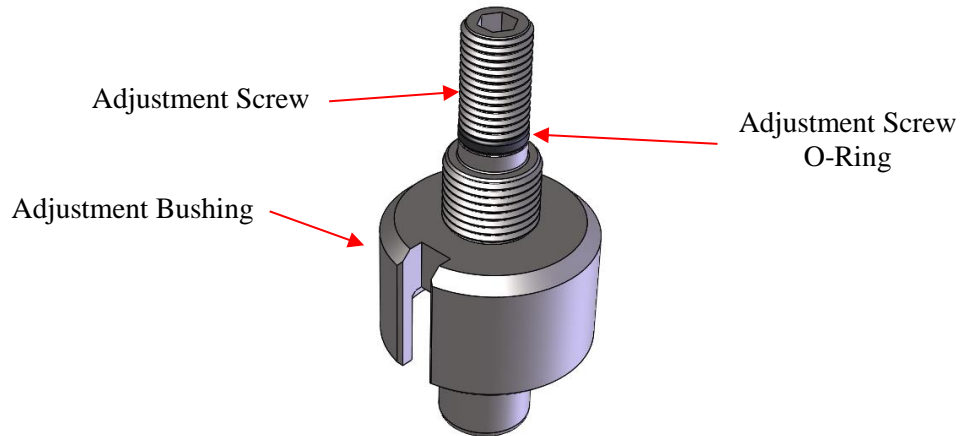

Figure 19: Inner Bonnet Components
10. Remove and discard the o-ring located on the adjustment screw. See Figure 19.